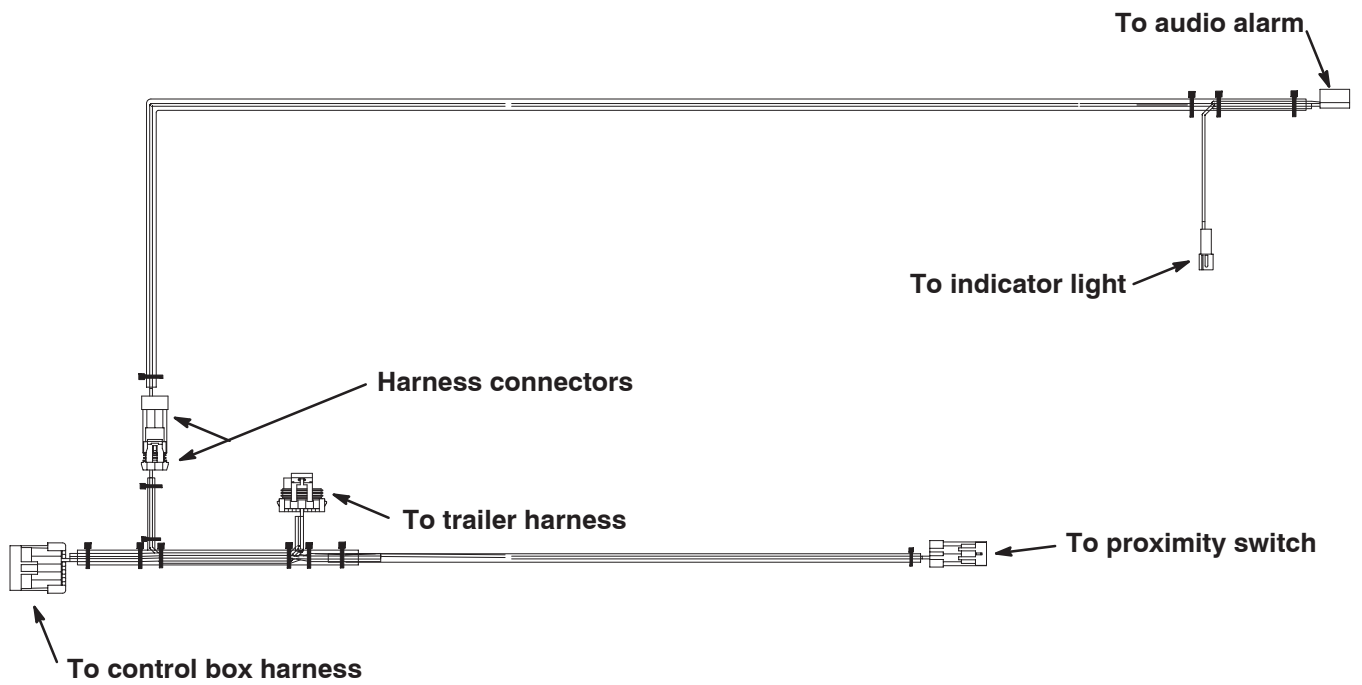

Figure 10
25. Connect the new trailer harness to one of the proximity switches. Connect the other switch to the main wire harness connector (Fig. 10).
27. Connect the existing control box harness and trailer harness to the new trailer harness (Fig. 10). Secure the new and old trailer harness connectors together with a cable tie. They do not need to be disconnected when separating the sweeper from the tow vehicle.